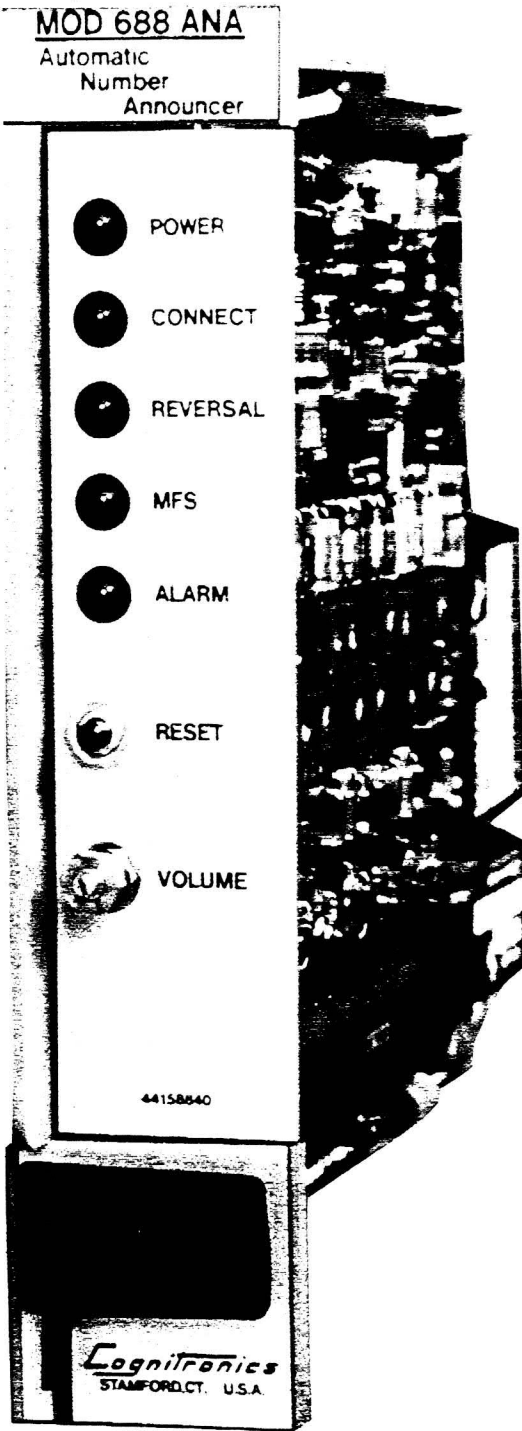

FIG 1-1
1.01 This manual describes the operation and installation of the 680 Series, Automatic Number Announcer (ANA) Model 688. See Figure 1-1.